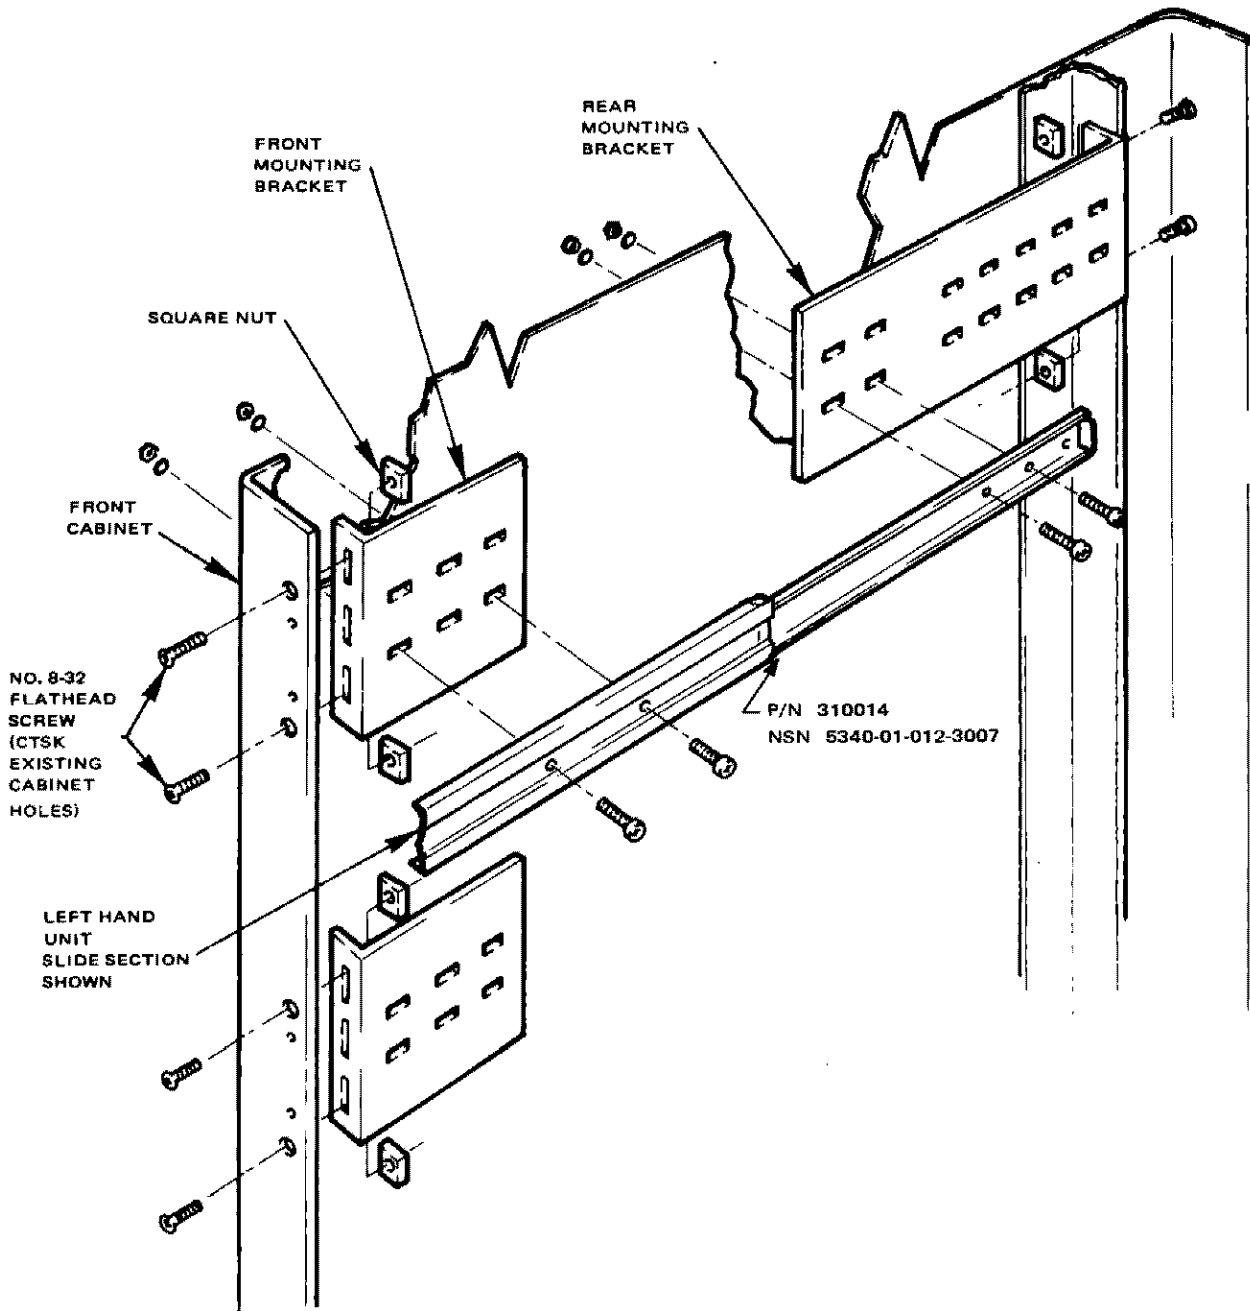

Figure 9-1. Typical View of Relay Rack Mounting Bracket (Left Side)
**9.3 INSTALLATION PROCEDURE.**- The vhf receiver and the uhf receiver are installed in either open-frame military type MT-686 racks or closed cabinets with the doors removed. Open-frame racks are preferred and shall be used where available. See paragraph 9.3.2 for relay rack cable plug requirements, figure 9-1 for typical relay rack bracket mounting, and figure 9-2 for an outline dimensional drawing of the vhf/uhf receiver. The vhf receiver and the uhf receiver are each provided with a 3-section slide attached to each side of the chassis. The stationary member of each slide has four 3/16-inch holes at one end and three 3/16-inch by 5/16-inch slots at the other end. These holes and slots are used for attaching the slides with machine screws to the corresponding brackets (figure 9-1) in the rack.